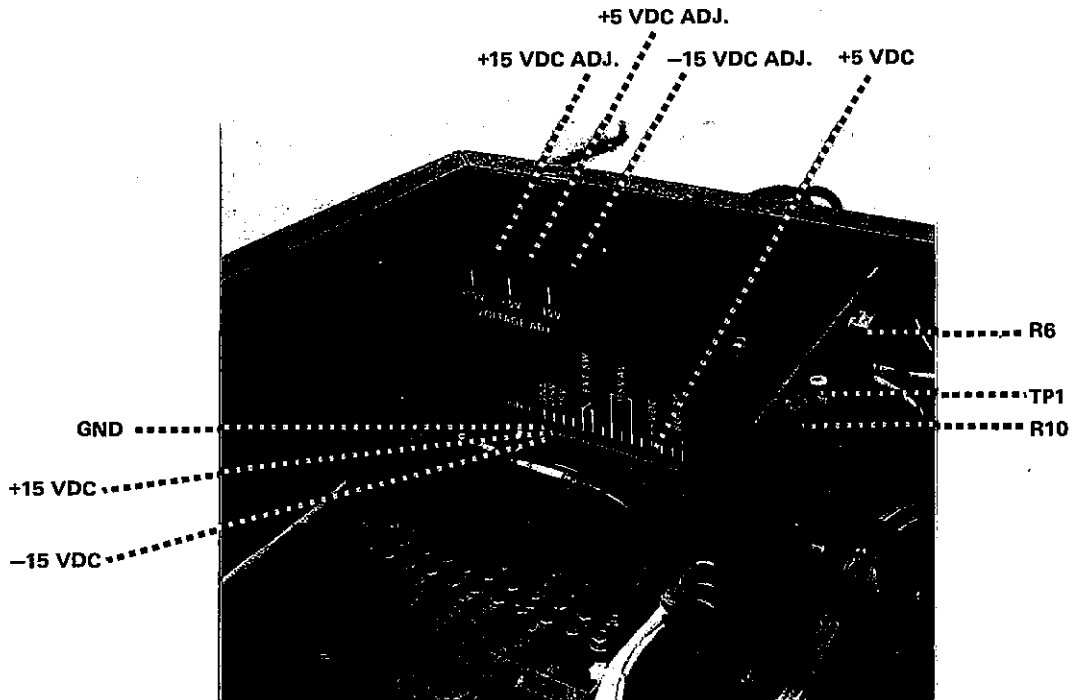
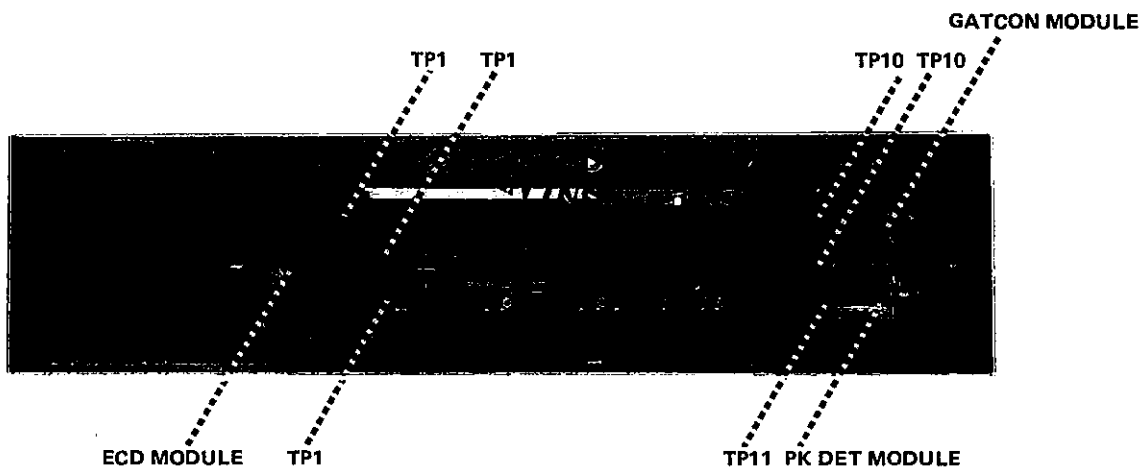

Figure 5.14. PS1 and CLP ATTN Test Point and Adjustment Locations
Figure 5.15. PK DET, GATCON, and ECD Test Point Locations
5.3.2.2 Electrical Pulse Analyzer. Figures 5.14 and 5.15a show the locations of the voltage test and adjustment points of the (PS1) power supply of the EPA. They also show the location of the test points and R10 of the Clip Attenuator module. Figure 5.15 shows the test point locations of the Peak Detector, Gate Control, and ECD modules. Figures 5.16 to 5.31 show the waveforms of various jacks and test points of the EPA.